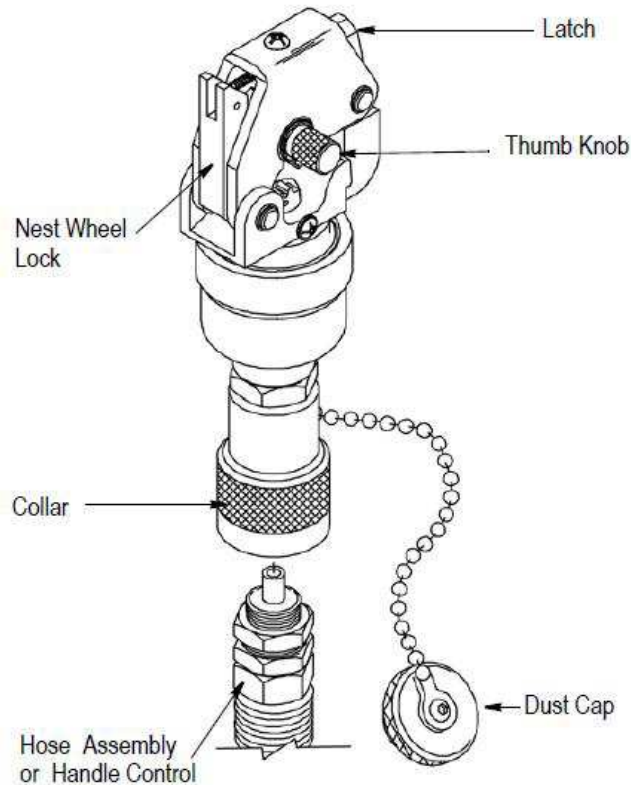

Figure 1
This instruction sheet covers application, inspection and maintenance procedures for Crimping Head PN 1673672-1 shown in Figure 1. The crimping head is used to crimp SOLISTRAND* terminals and splices onto solid or stranded copper wire sizes 8 thru 2 AWG.
1. Thoroughly clean coupling area of handle control or hose assembly and crimping head (see Figure 1).